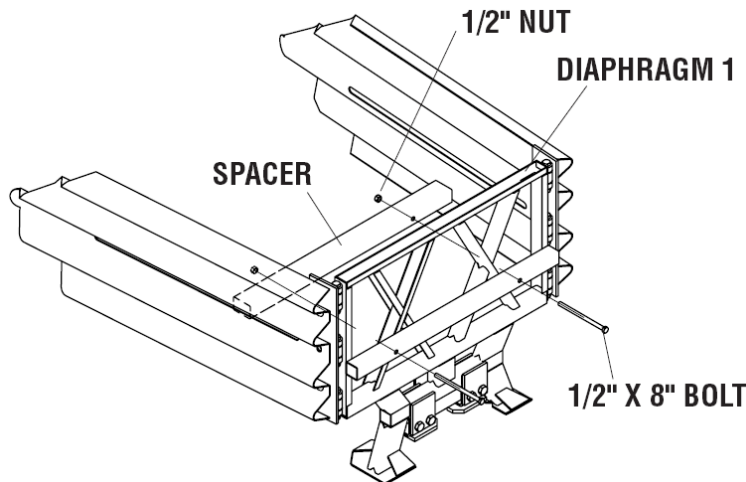

Figure 65
- C. Using 1/2" x 8" bolts and 1/2" nuts, attach spacer to rear of Diaphragm 1 as shown in Figure 65.